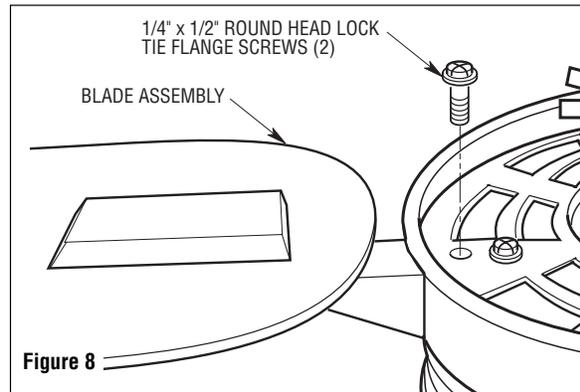

Figure 8
10. Slide the blade assembly into the housing slot. Attach the blade assembly using two 1/4" x 1/2" round head lock tie flange screws. Attach the remaining four blades (Figure 8).